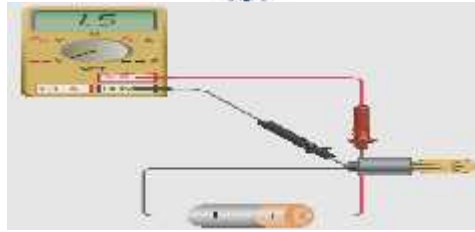

Fig. 2.18. Voltmeter connected to measure voltage.
- ✓ A voltmeter is used to measure the voltage, or potential energy difference of a load or source, as illustrated in Figure 2.18. Voltage exists between two points and does not flow through a circuit as current does. It is possible to have voltage without current, but current cannot flow without voltage.